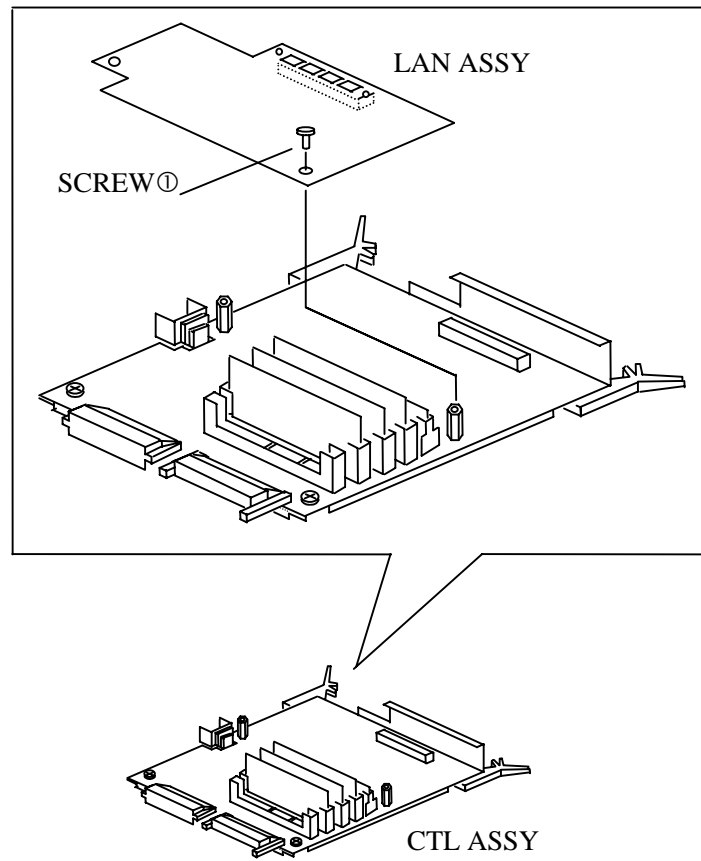

Figure 5.4.4 Installing a LAN ASSY
- (3) Install a LAN ASSY. ( See Figure 5.4.4 in Sheet No. 71.)
- (4) Mount the CTL ASSY.
- (5) Set the DIP Switch as described below.